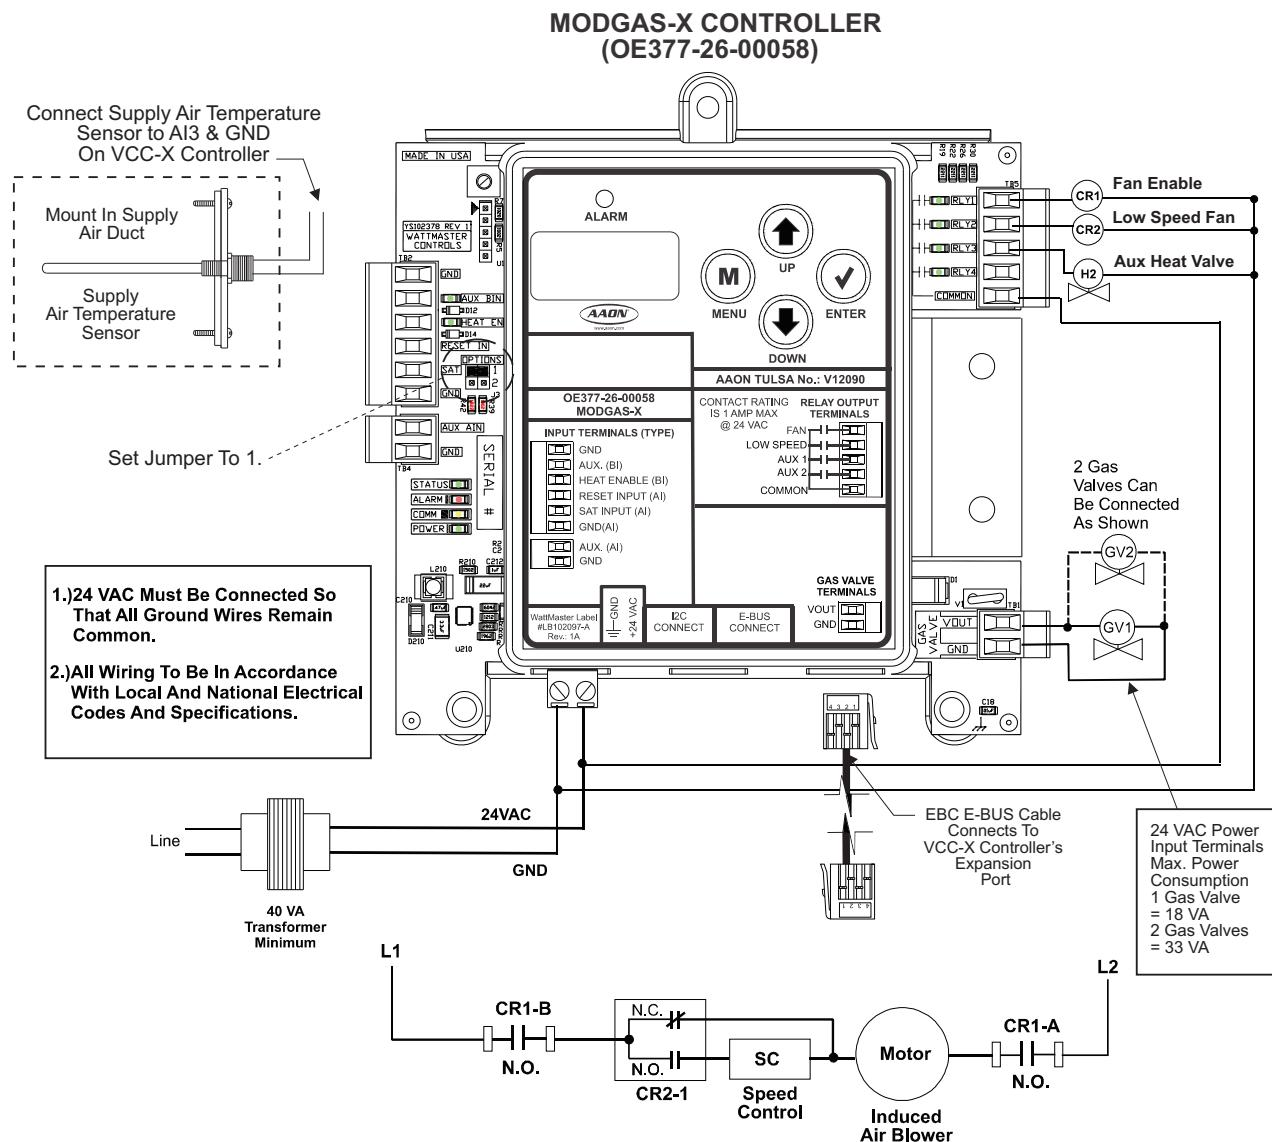

Figure 37: MODGAS-X Controller to VCC-X Controller Wiring Diagram
The OE377-26-00058 MODGAS-X Controller (AAON Part No. V12090) is designed to modulate up to (2) gas valves to maintain a desired Discharge Air Temperature. It also controls the speed of the induced draft fan to maintain proper combustion in the heat exchanger. The MODGAS-X Controller directly connects to the VCC-X Controller or indirectly using an E-BUS Expansion Board via an EBC E-BUS cable. See **Figure 37**, below.